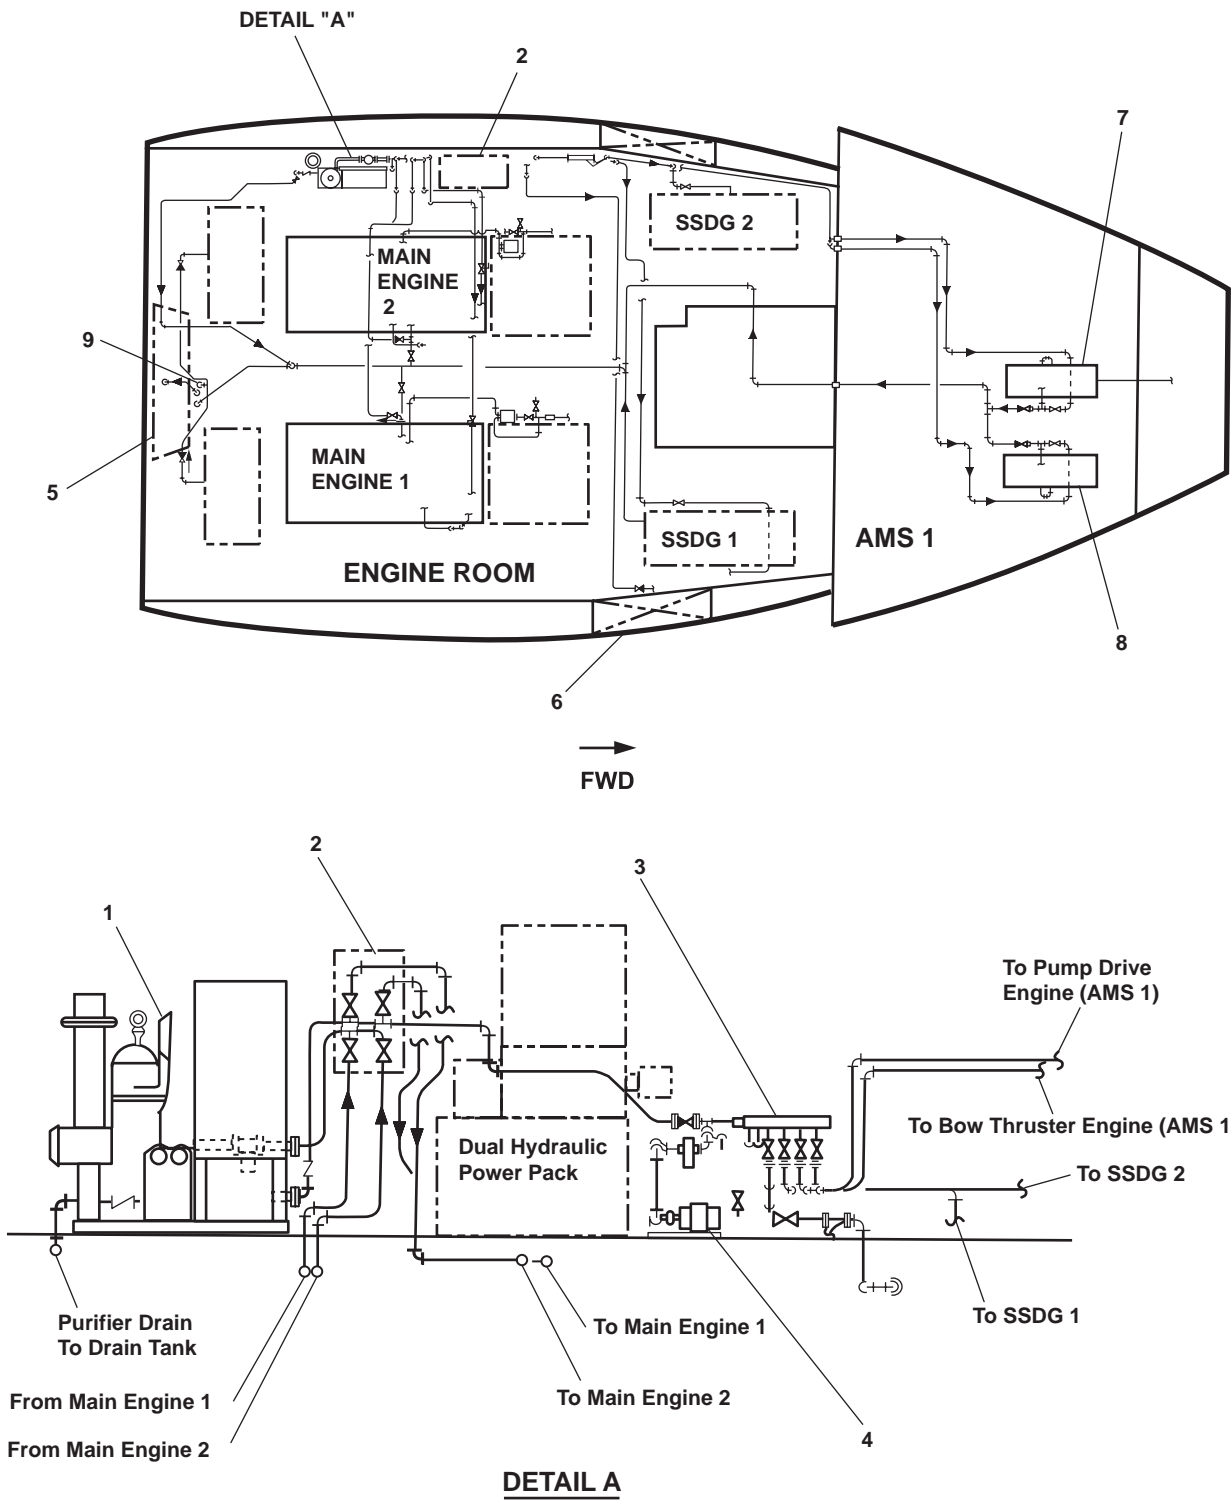

Figure 1. Lubricating Oil Fill and Transfer Piping System
The oily waste storage tank (figure 1, item 6) provides a holding tank that supplies oily water to be processed by the oil water separator. The tank also receives the oil output from the oil water separator. When appropriate, the oily waste discharge pump can empty the oily waste storage tank through the shore connection.
A lube oil hand pump (figure 1, item 9) is provided to drain the port and starboard reduction gear sumps.
The lubrication oil fill and transfer system transfers lubricating oil from the lube oil storage tank to the main engine, SSDG sumps, bow thruster engine sump, and pump drive engine sump. System alignment is maintained by the lube oil transfer manifold (3-way manifold) (figure 1, item 2) and a combination of valves. A fast lube oil drain system allows dirty oil and sludge to be discharged from the engine sumps to the oily waste drain tank (figure 1, item 5) using gravity drains. Dirty oil from the port and starboard reduction gears is discharged to the oily waste drain tank using the lube oil hand pump (figure 1, item 9). Power for the lube oil transfer pump is supplied from the main switchboard, through 440V power panel No. 1. A lube oil purifier (figure 1, item 1) purifies the lube oil for the main engines. Power for the lube oil purifier is supplied from main switchboard. Each unit has a START/STOP pushbutton adjacent to the unit.